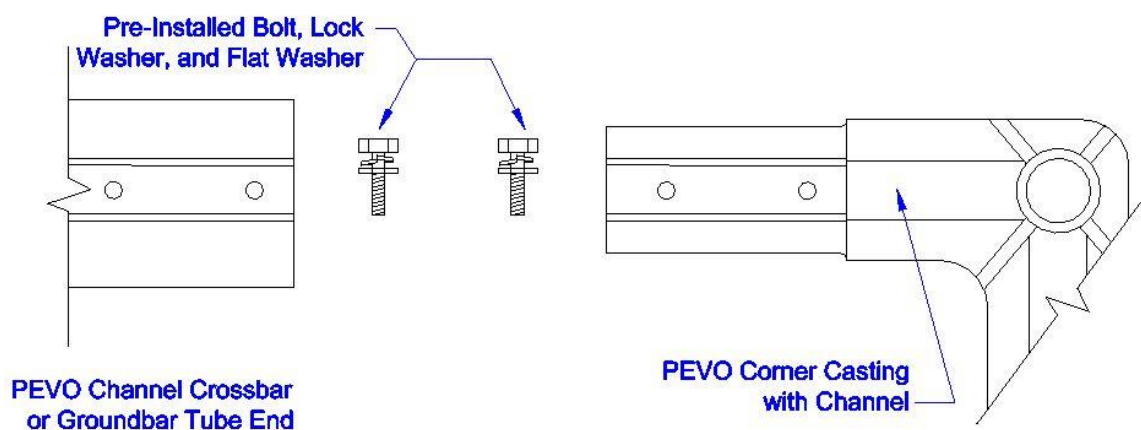

Figure 1. Crossbar/Ground Bar Tube with Corner Casting.
5. Install ends of Ground Bar onto Side Assembly stubs. (See Figure 1) On one side, install Lock Washer and Flat Washer onto Bolts and hand turn into threaded hole in casting using **finger pressure** to ensure proper threading.
6. Install ends of Crossbar onto Side Assembly top corner stubs. (See Figure 1)